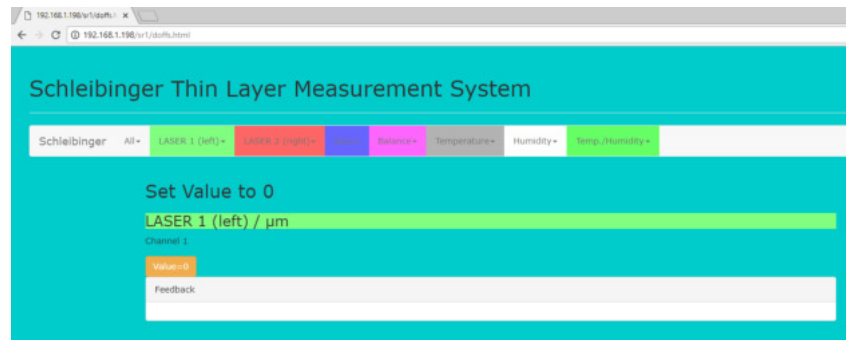

Figure 21: Offset zero
- Select **Offset** and press the button **Offset=0**. The measured values are set to zero (Fig. 21).